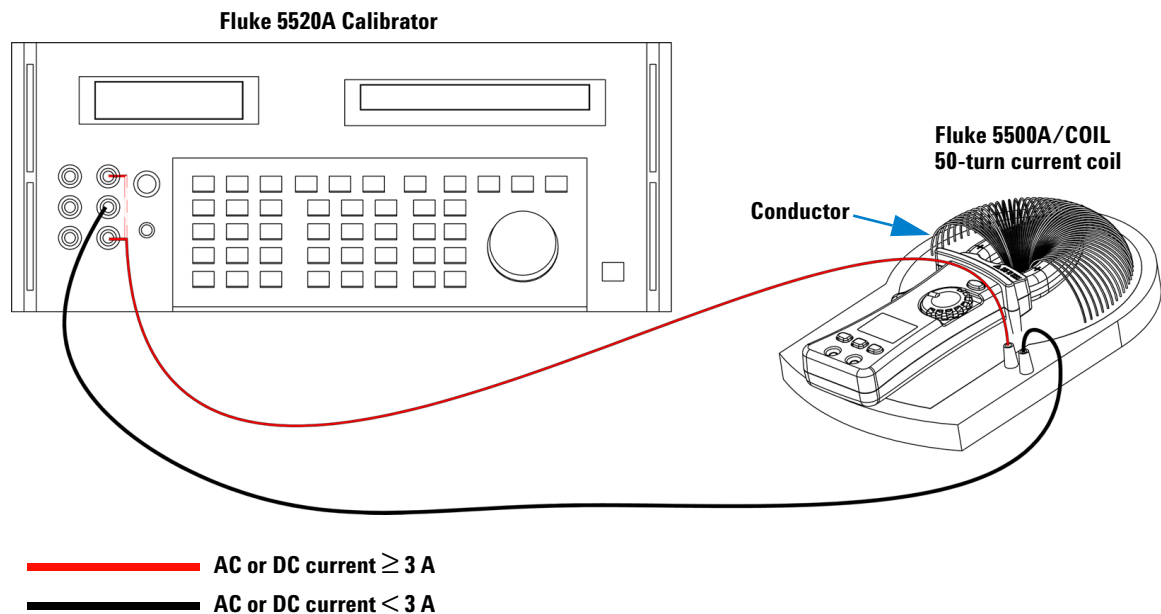

Figure 1-3 Current performance verification test setup
- 1 Place the clamp meter on to a Fluke 5500A/COIL 50-turn current coil as shown in Figure 1-3, “Current performance verification test setup,” on page 14.